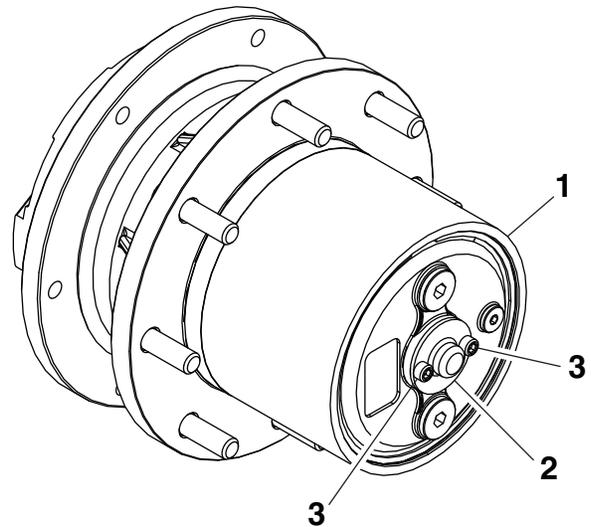

Figure 33
3. Remove and retain the bolts from the gearbox (Figure 33).